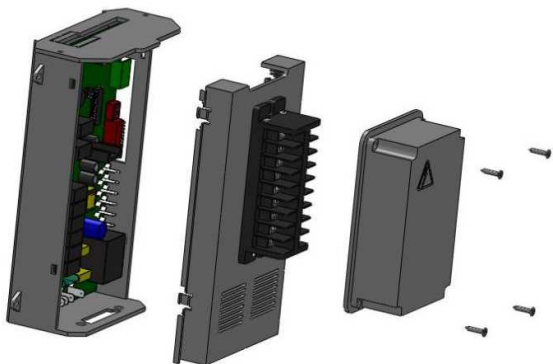

Figure B.13.1
- Open the terminal block cover by removing the 4 screws. (Figure B.13.1)